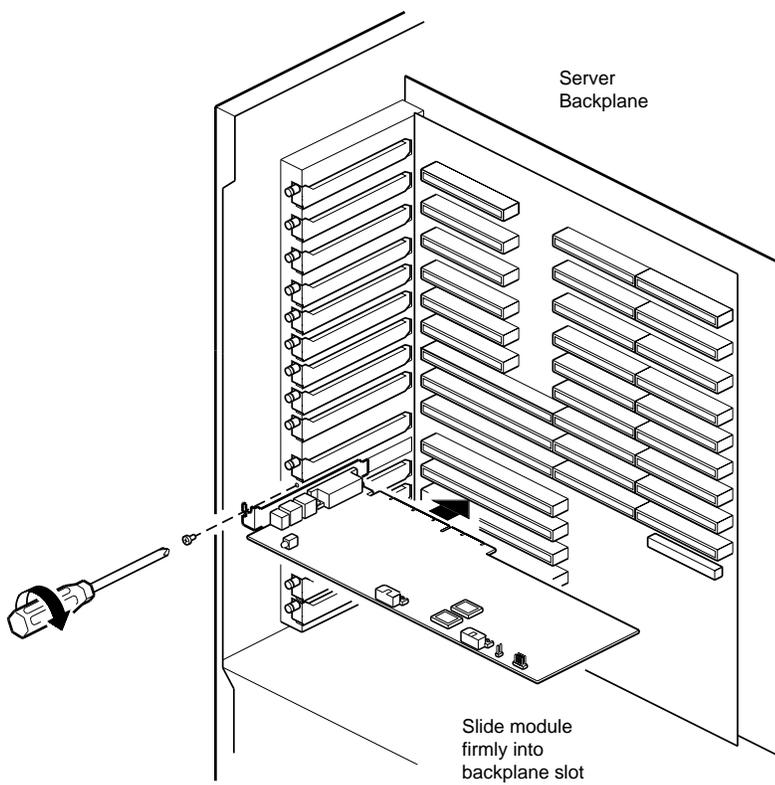

Figure 2. Controller Installed in EISA Bus Master Slot
5. Secure the controller in place as shown in Figure 2.